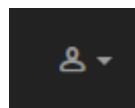

Figure 1. Partner Portal (Profile icon)
3. Hover the mouse cursor over the Profile icon in the upper right-hand corner of the web page (Figure 1 \(page 11\)). Click the **Account** option.